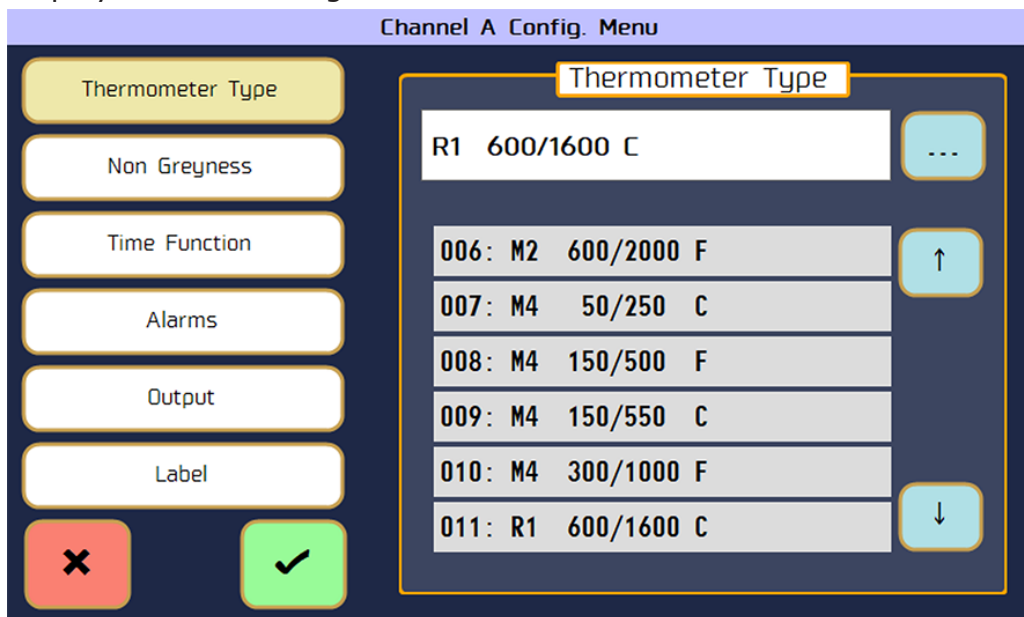

Fig. 3-3 Thermometer Type display
- 2) Select the Thermometer Type option. A typical Thermometer Type display is shown in Fig. 3-3.